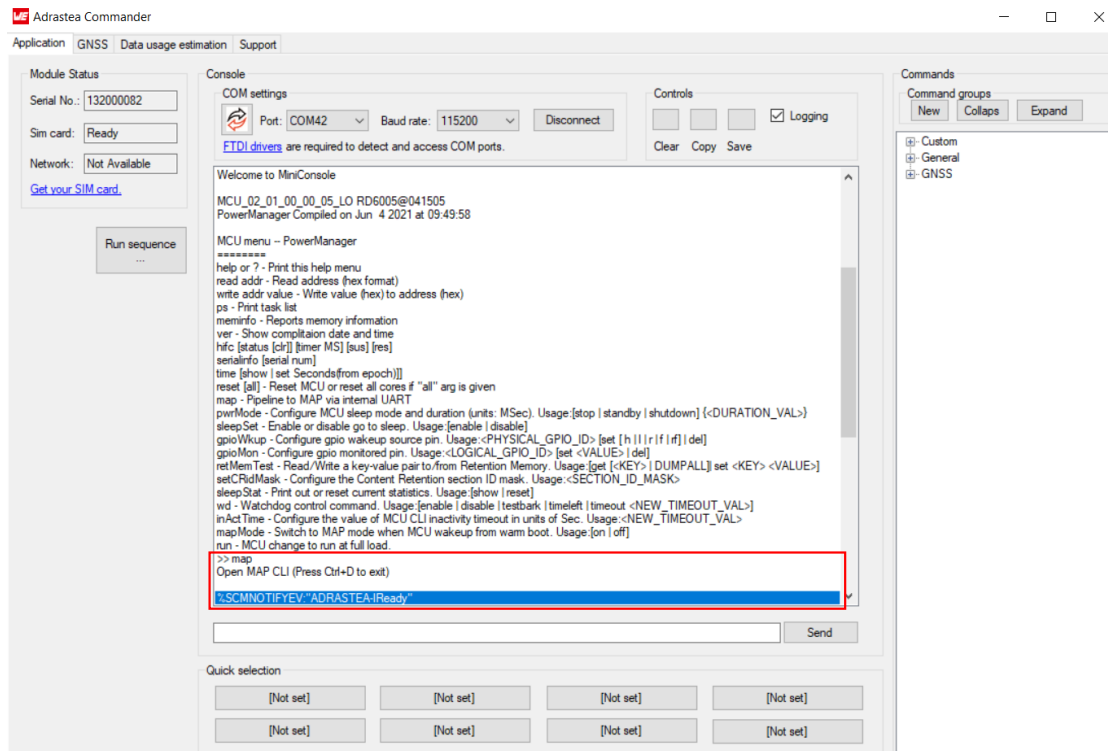

Figure 19: MiniConsole start view - Adrastea Commander
5. Press the reset button on the EV-Board to ensure a clean start-up of the module. See figure 19.